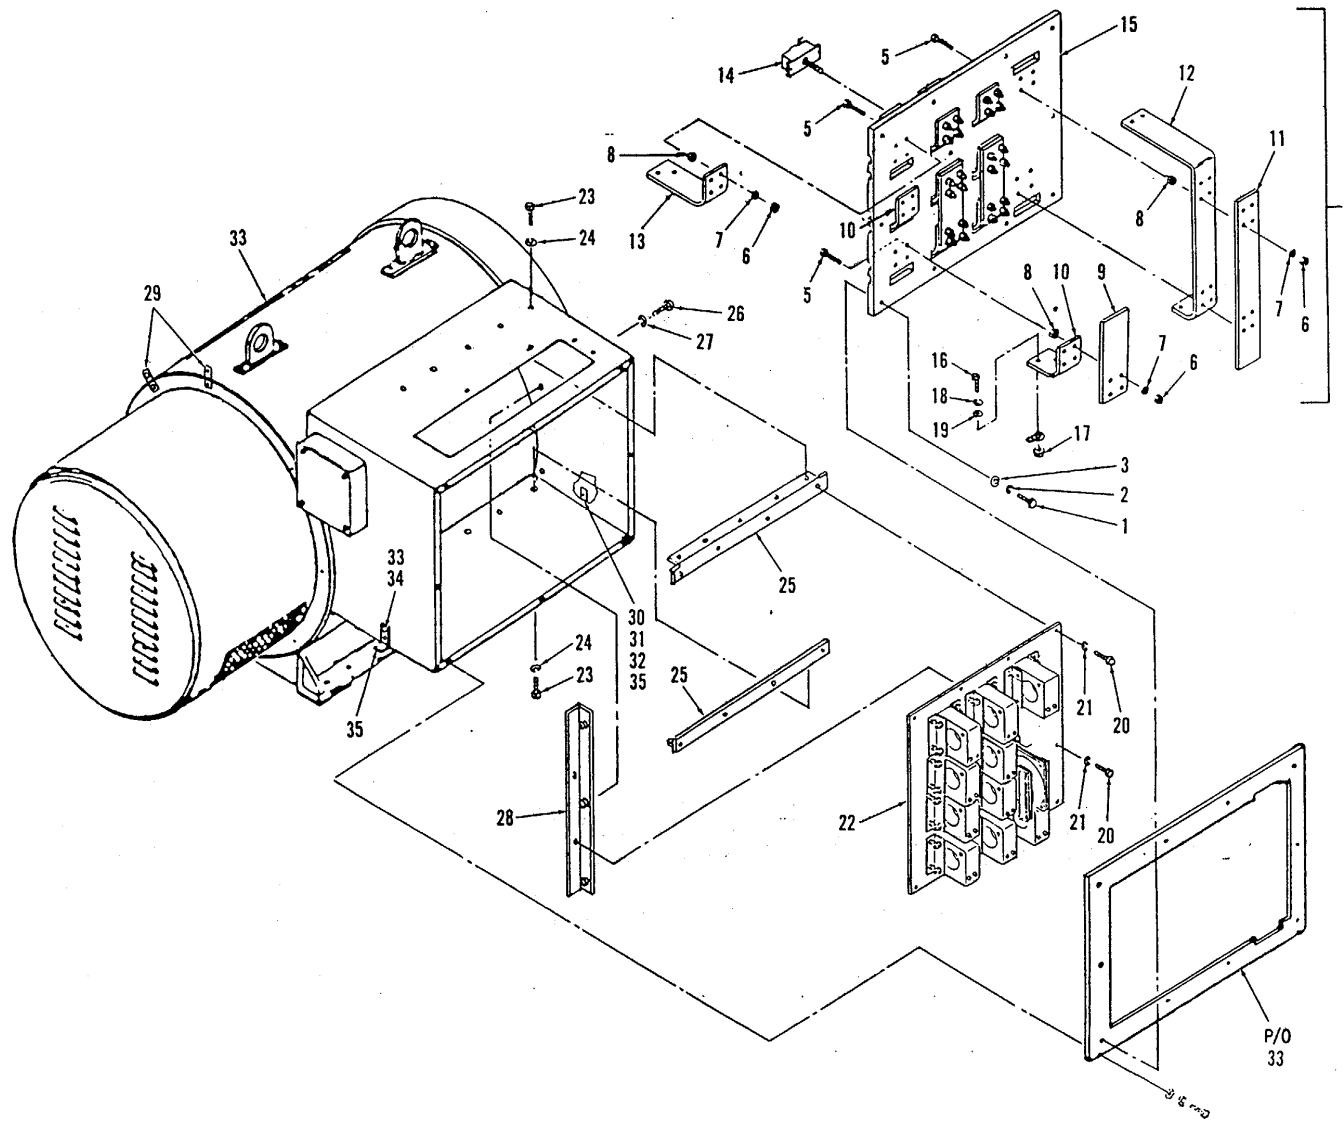

Figure 11-1. Generator-Reconnection and Box Assembly
- (1) Replace current transformer assembly (22, figure 11-1, sheet 2) by replacing the ten screws (20 and washers (21).
- (2) Replace reconnection boars and buss bars, par. 11-2 b.
assembly. Refer to figure 11-1, sheet 2 and 11-2 to provide access to current transformer for removal.
LEGEND FOR FIGURE 11-1 (Sheet 2)